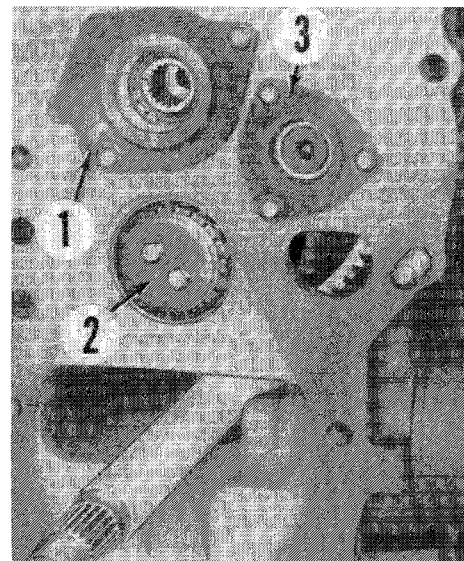
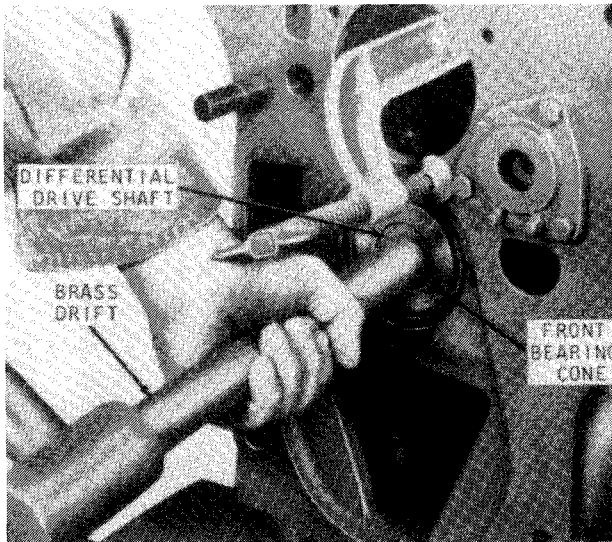

Fig. 124—View of front of Quad-Range transmission case typical of 4050, 4250 and 4450 models. Refer to Fig. 124A for 4650 model.
Fig. 125—Install a “C” clamp to hold front gear forward while driving differential drive shaft out of front bearing cone.
With transmission separated from clutch housing, disassemble as follows: Remove rockshaft housing. Remove transmission drive shaft front bearing retainer (1—Fig. 124) on Models 4050, 4250 and 4450. Remove shifter detent caps, springs, retainers and balls from right side of housing. Rotate upper shifter cam (7—Fig. 122 or 122A) to its lowest position, then remove special locknut (4) from inner end of shifter shaft (9). Be careful not to drop parts into housing as they will be difficult to remove. Withdraw shifter cam and shaft from housing. Remove shift rail (6) on all models and rail (22) on 4650 models out front of transmission housing. Withdraw shifter forks (1 and 5) from housing.
bearing retainer plate (2—Fig. 124 or 124A) from front of the shaft, or remove gear from front of shaft if equipped with mechanical front-wheel drive. Install a “C” clamp (Fig. 125) through hole in housing and tighten against front gear to hold gear against housing. Using a brass drift, drive shaft rearward and retighten “C” clamp until front bearing cone can be removed. As shaft is driven rearward, remove the four snap rings (Fig. 126), located between the gears, out of their grooves. When rear snap ring has been unseated, bump shaft rearward while sliding parts off front of shaft. Be sure to retain bearing shims for use in reassembly.
To remove countershaft, first remove front bearing retainer (3—Fig. 124 or 124A) with shims. On Model 4650, remove snap ring retaining rear bearing cup. Drive shaft rearward until rear bearing cup is removed, then lift out shaft assembly. On Models 4050, 4250 and 4450, drive shaft forward to remove front bearing cup. Remove shaft assembly from case.